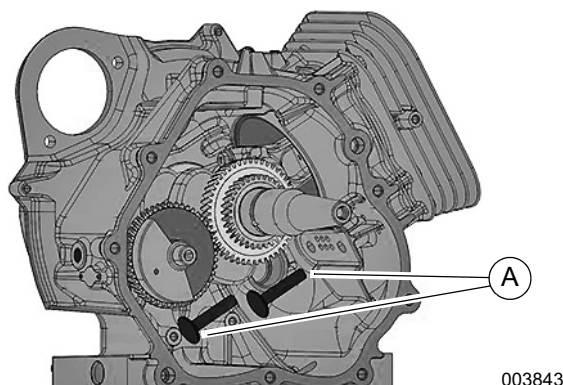

Figure 14-20. Install Tappets
See Figure 14-20. Apply assembly lube to the cylindrical portion of both tappets (A). Install them in the crankcase assembly.